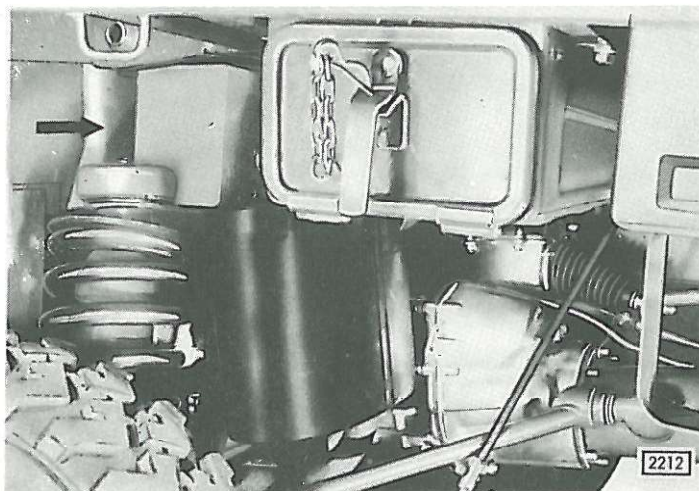

fig. 1
- 6a. Undo heater tube from the platform, pull both heater hoses from the muffler box. Disconnect mufflerbox on the rear attached to the lateral engine cover plate muffler stays with the engine. Lift platform up and secure it by placing a supporting base, approximately 150 mm (6 inches) high. (a piece of hardwood etc), between platform and cross member (see fig. 1).